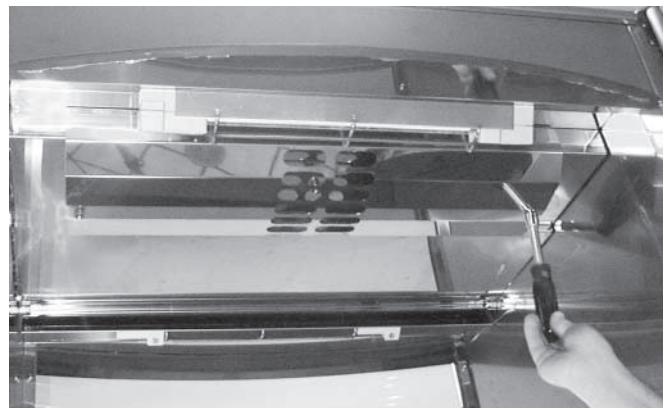

Fig. 45
2. Remove the vent-grate: Use a  $\frac{7}{16}$ " nutdriver to unscrew two  $\frac{7}{16}$ " nuts, one on each side of the vent (Figs. 45, 46).